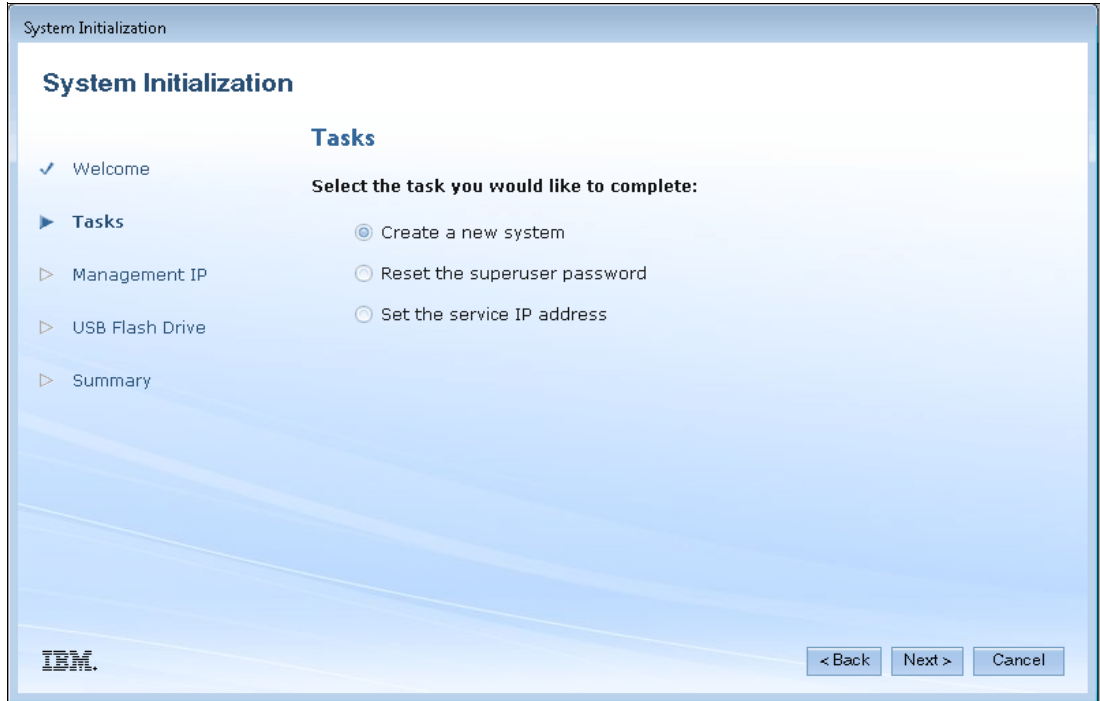

Figure 2-10 System Initialization - Create a new system
2. The options for creating a new system are shown in Figure 2-10.